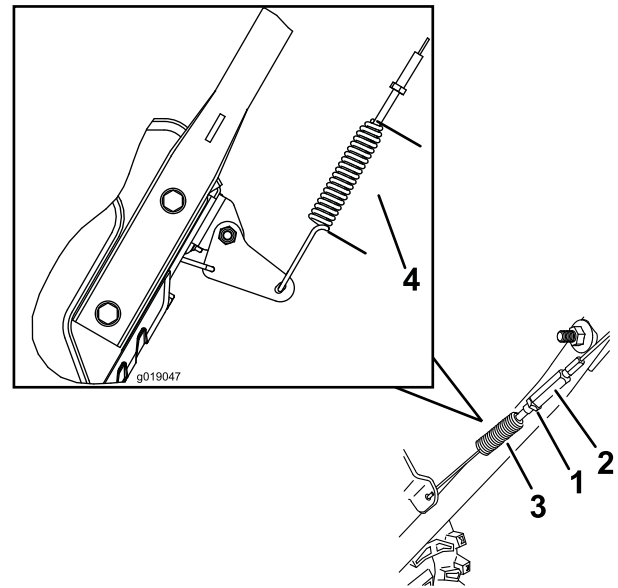

Figure 40
- Loosen or tighten the turnbuckle to adjust the spring length to 2.75 inches (7 cm) (Figure 40).
- Tighten the jam nut (Figure 40), ensuring there is slight tension on the cable.